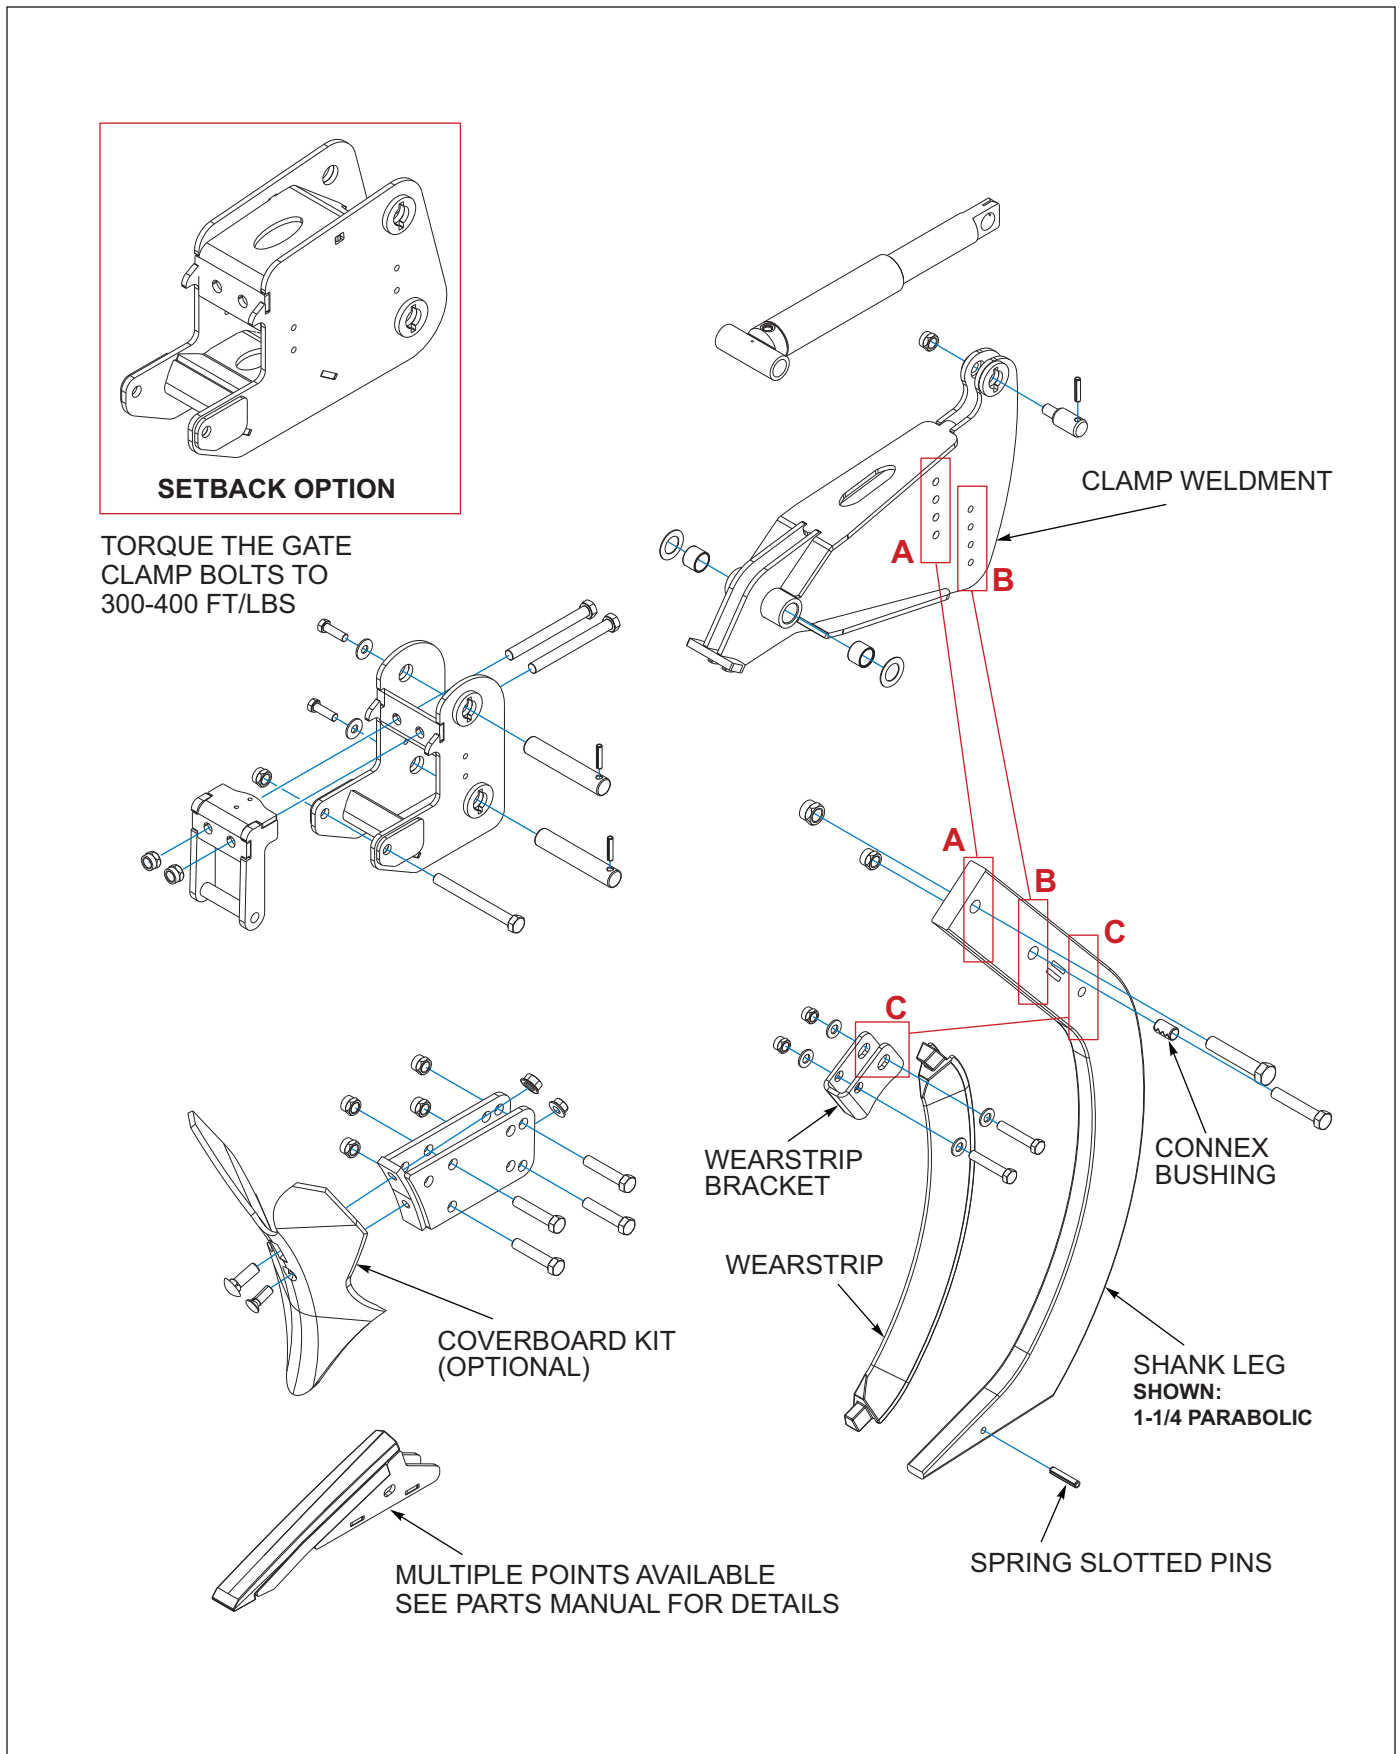

Figure 3-6: Auto-Reset Shank Clamp (Hydraulic)
1. Insert four 1/2-13 x 2-1/2 Bolts into the Coverboard Bracket before attaching the Coverboard Furrower. **See Figure 3-6.** Secure with 1/2-13 Locknuts and tighten only so that locking portion of nut engages the thread. The customer will tighten these nuts after mounting to shank.